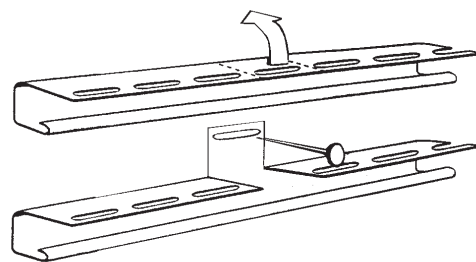

Figure 65.
- If no soffit receiver is available for a situation best suited for the product, the J-channel can be modified to create an F-receiver (Fig. 65).
- Simply cut slots in the nail flange area where it would be nailed to the wall (Fig. 65). After cutting the nail flange, bend the flange back and nail it to the wall.